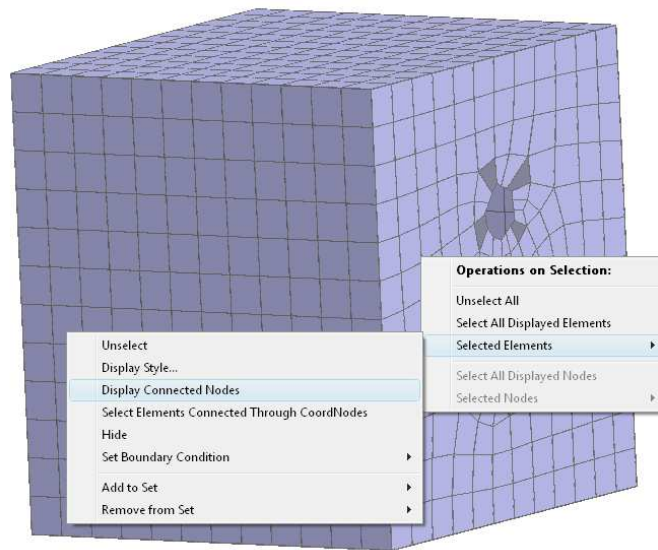

Figure 12: Display connected nodes for creating a seam.
- Right-click on the mesh while holding down the *shift-key* to view the context menu and select: **Selected Elements > Display Connected Nodes** as shown in Figure 12.
- Right-click on the mesh while holding down the *shift-key* to view the context menu and select: **Selected Elements > Display Connected Nodes** (similar to the Figure 12).